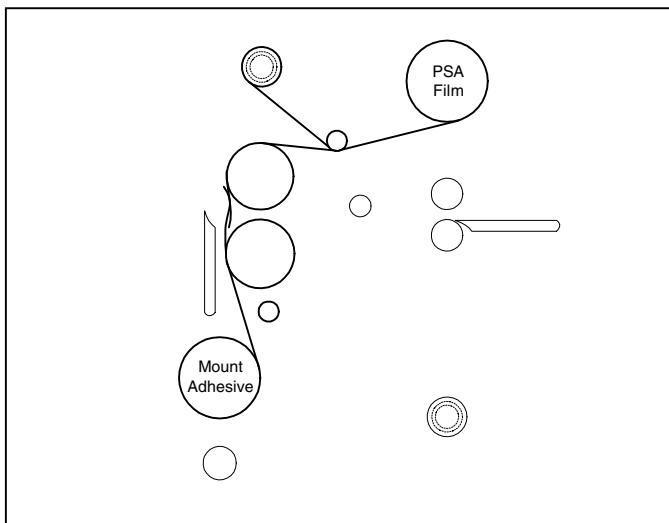

Fig. 26
7. Pull the mount adhesive up towards the film draped over the upper heat roller (Figure 26).